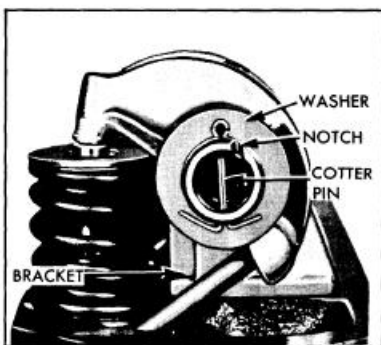

Figure 2-16—Rocker Arm Shaft
5. Install bolts with plain washers through brackets and shaft so that the notch on one end of shaft is upward in line with bolt heads. This places the oil holes on lower side of shaft in proper relationship to rocker arms. See Figure 2-16.
(4) Install locking plates with exhaust manifold bolts, tighten bolts only to 10-15 ft. lbs. torque, then bend one tab of plate against a flat on each bolt head.
(5) When rocker arm and shaft assembly is installed, make certain that the notch in one end of shaft is upward in line with bracket bolt heads. See Figure 2-16.
(6) Install intake manifold gaskets so pointed end of each gasket is "IN" toward center of engine.
(7) After installation is completed and engine has been warmed up to operating temperature, recheck cylinder head bolts for 65-75 ft. lbs. torque.